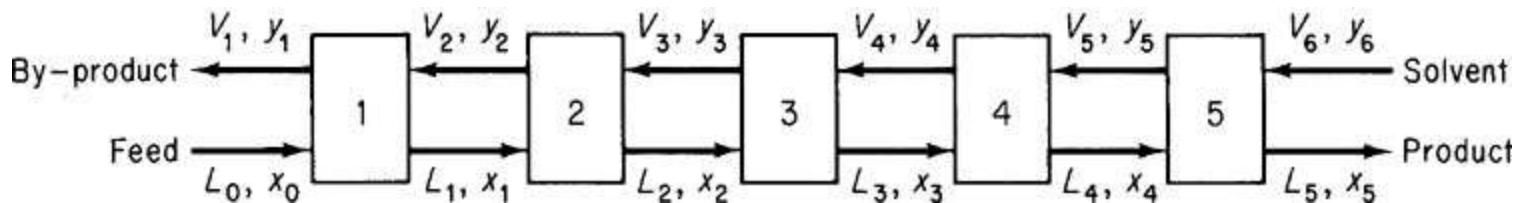

Figure P12.6
- 12.6. Set up decomposition schemes for the processes shown in Figure P12.6. What additional variables must be specified to make the system determinate if (a) the feed conditions are known, or (b) the product conditions are specified?